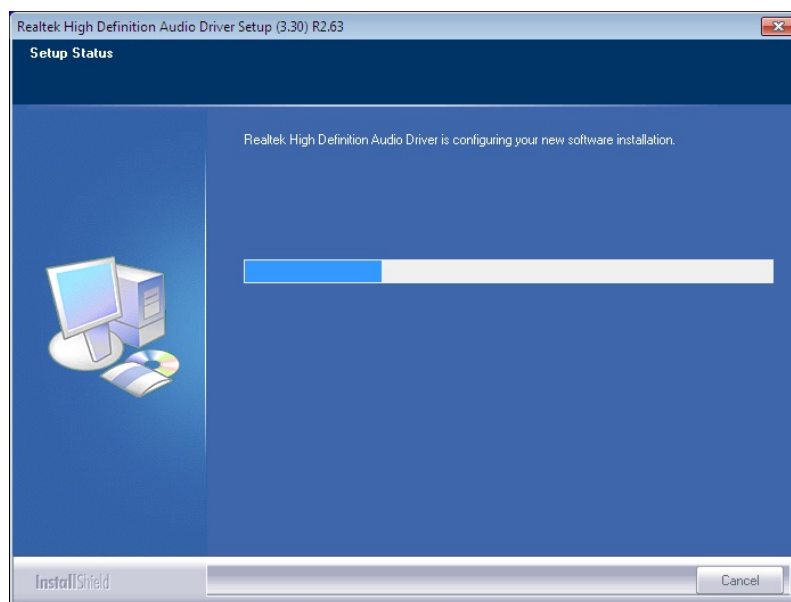

Figure 6-18: Audio Driver Installation
Step 9: The installation progress can be monitored in the progress bar shown in **Figure 6-18**.